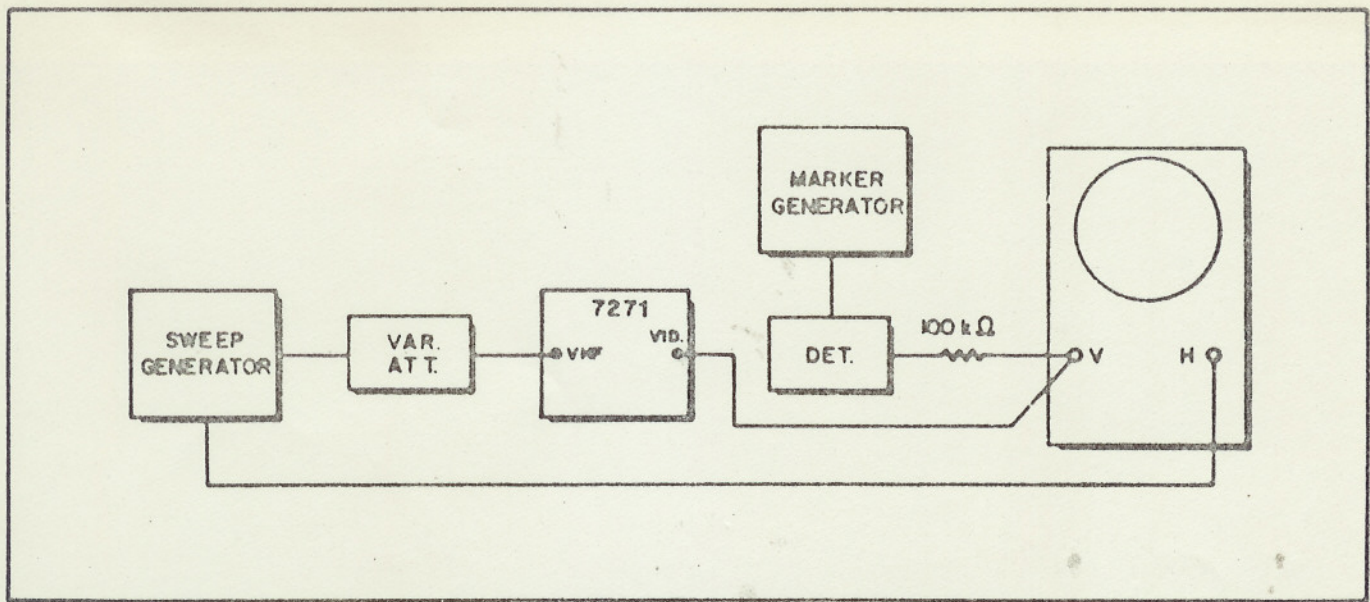

Fig. 5-6. Setup for Video Amplifier/Detector Alignment
1. Connect equipment as shown in Fig. 5-6.